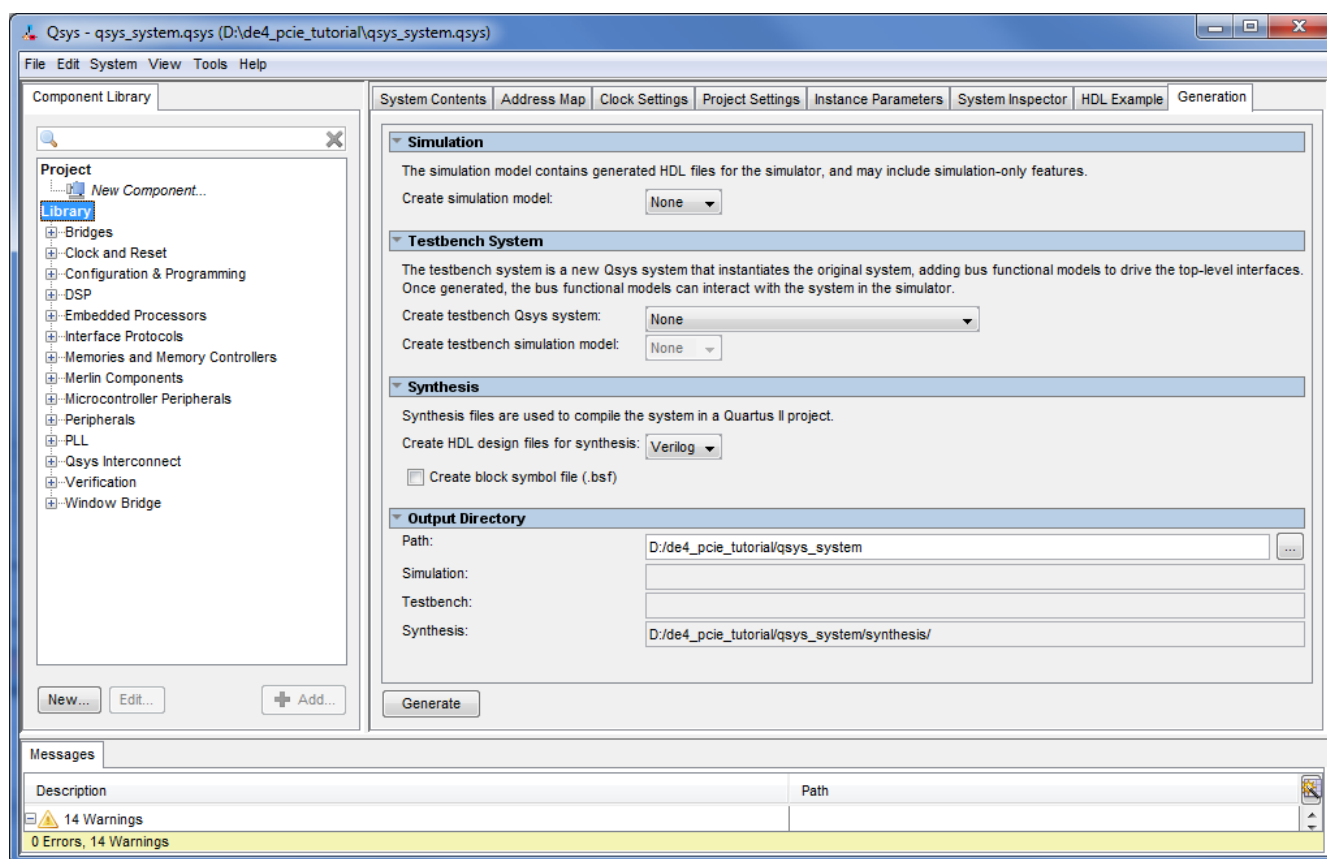

Figure 12. The Qsys Generation tab.
1. Under the **Generate** tab, uncheck the **Create block symbol file (bsf)** in the **Synthesis** section as shown in Figure 12.